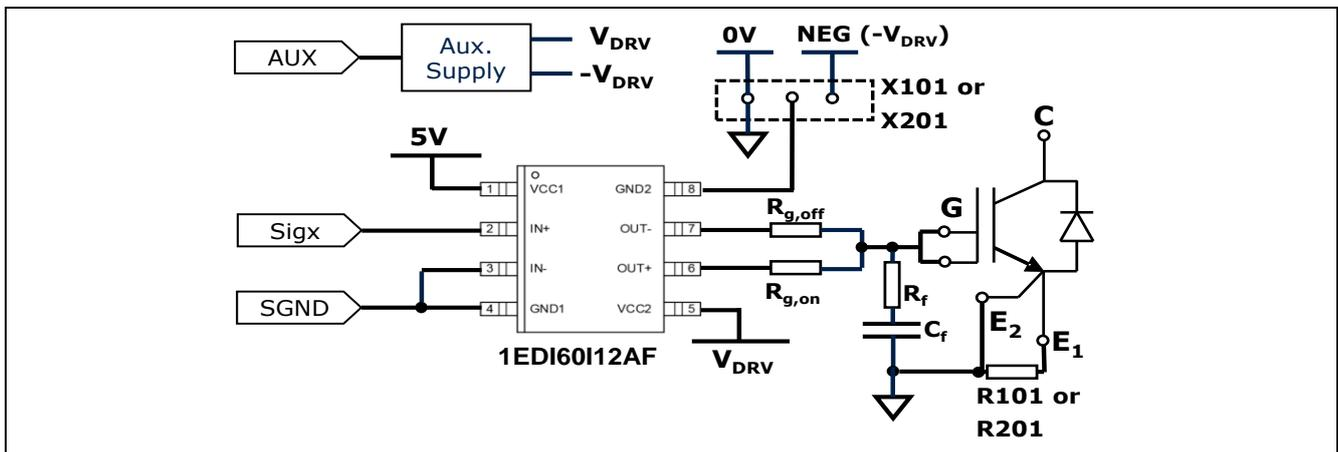
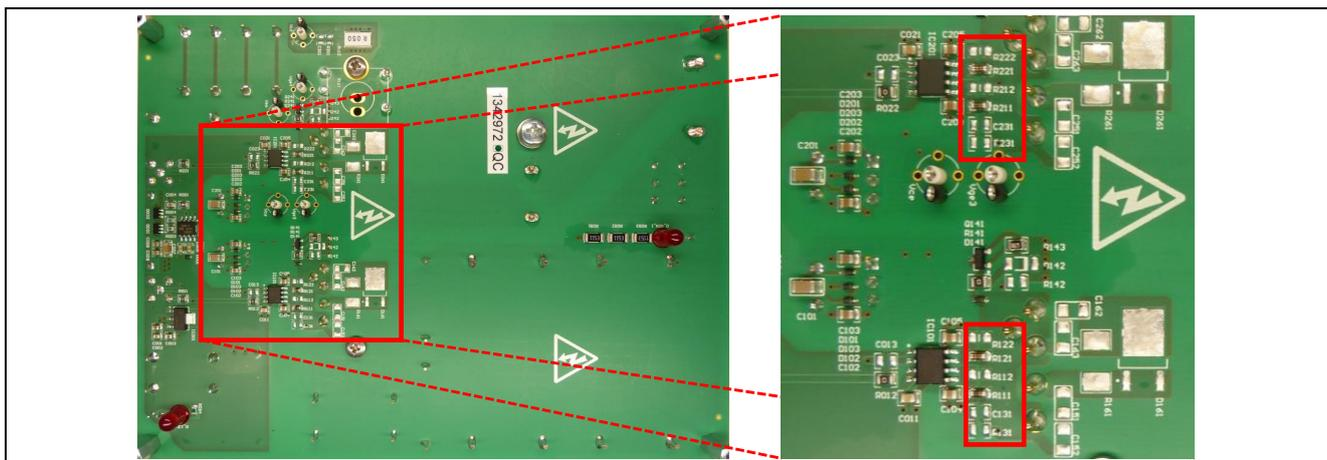

Figure 8 Simplified schematic of the gate driver circuitry
Figure 9 Bottom view of the Eval board PCB (left) and detailed picture, where the components for the setup of gate circuitry are evidenced (right)
A simplified schematic of the gate driver circuitry is depicted in Figure 8. Both pins 1 and 5 of the socket are connected to the gate pins of the TO-247 and the TO-247 4pin respectively. Separated resistors $R_{g,on}$ and $R_{g,off}$ are connected to the gate driver. An extra low pass filter composed of resistor R_f and capacitor C_f , initially not assembled, can be used to filter the gate signals if desired. The component numbers in the schematic are presented in Table 3Figure 9.
Figure 9 highlights a detailed view of the bottom side of the Eval board. There the location of the components present in Table 3 is given.
8. Connect a voltage source between terminals **AUX** and **SGND**. This the voltage V_{AUX} that, in combination with jumpers **X101** and **X102** defines the driving voltages, as described in Table 3 Figure 9. In order to avoid disturbances on the gate of **S2**, it is recommended to set **X102** to **NEG**;